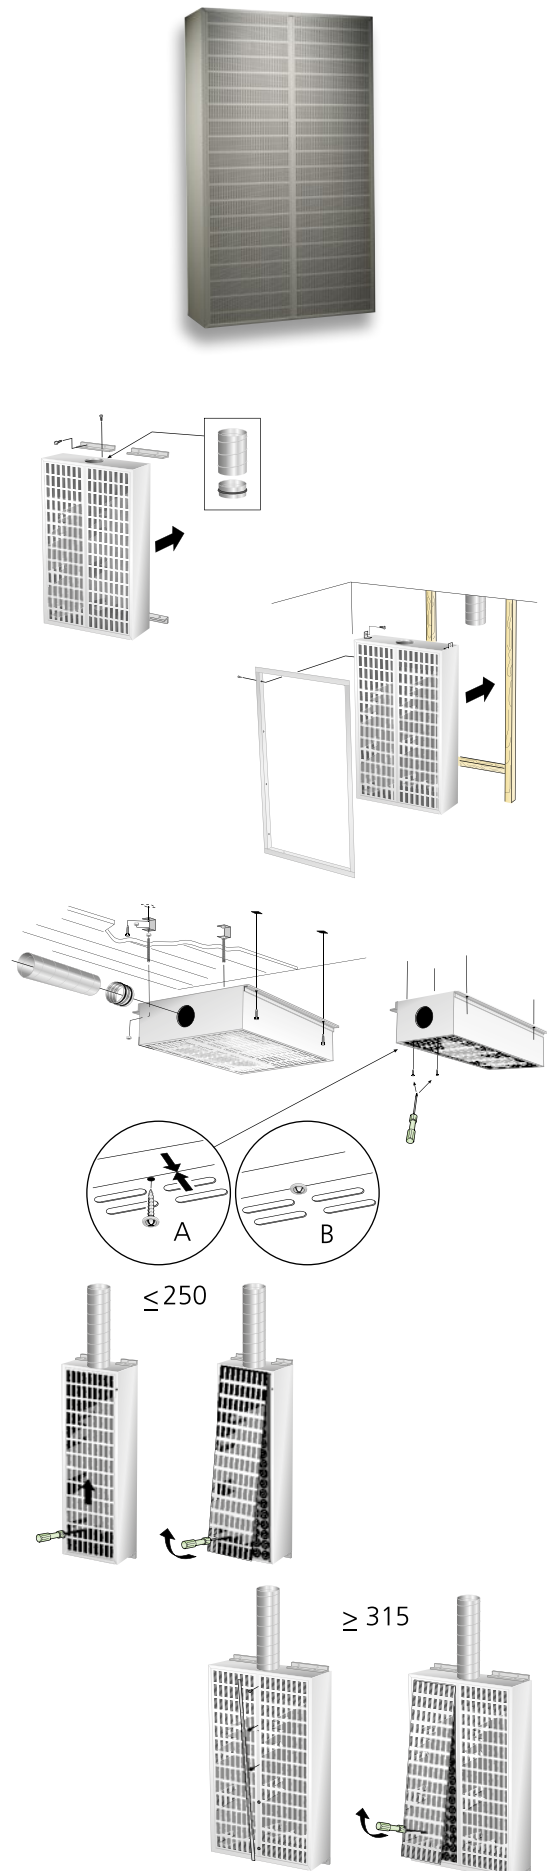

Figure 1. Installation.
- The front consists of one or two perforated front plates, see figure 1.
- Installation example is shown in Figure 1.